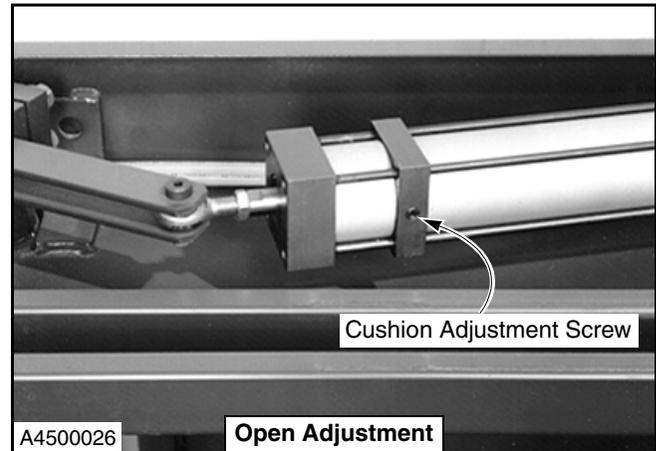
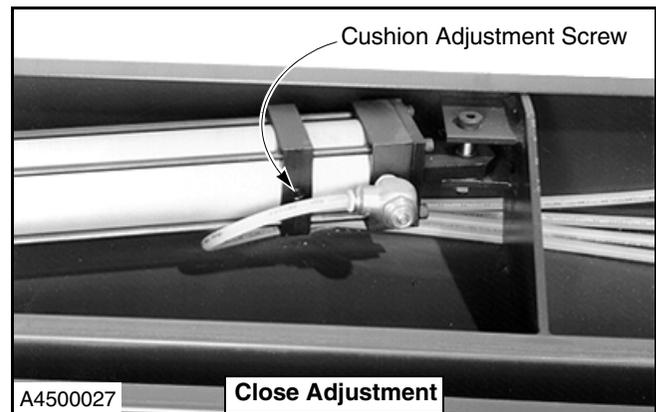

Figure 22
Figure 23
3. Adjust the appropriate cushion adjustment screw as necessary to change the door open or door close travel speed. (See Figure 22 and Figure 23.)